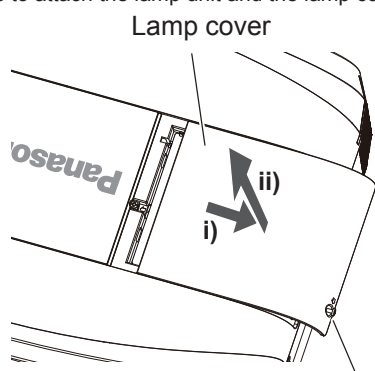

Fig. 1 Lamp cover fixing screw
- Remove the lamp cover. (Fig. 1)**